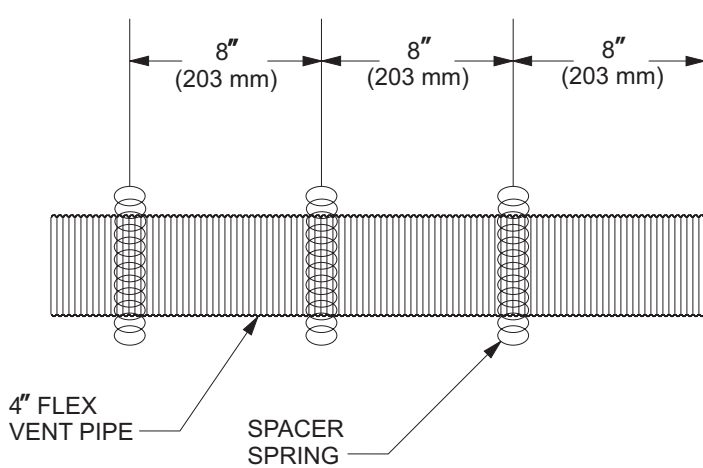

Figure 58
2. Verify the spacer springs are located around the flue vent at 8-inch intervals along its length. See Figures 58 and 59. If the spacer springs are not installed, stretch the spacer springs to about 15 inches long and wrap them around the flue, then interlock the ends of each spring at 2 inches. Maintain equal distance between spring spacers.